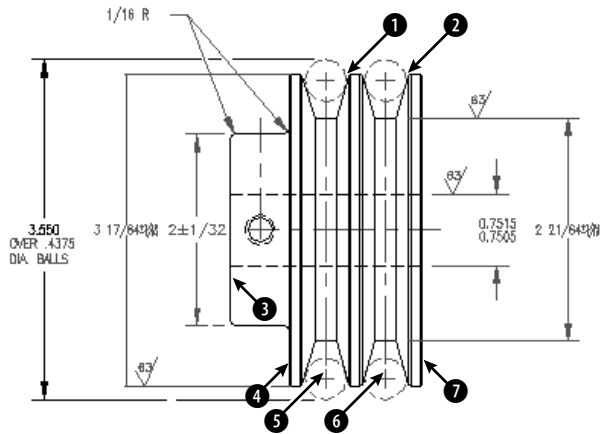

Figure 14-30: You can use Quick Dimension to dimension the circles and create continuous dimensions.
2. Save the file as **ab14-07.dwg** in your AutoCAD Bible folder. This is the same drawing you used in the previous exercise, except that some of the dimensions have been removed (see Figure 14-30). OSNAP should be turned off. If the Dimension toolbar isn't displayed, right-click any toolbar and choose **Dimension**.
Select geometry to dimension: *Pick the circle at ① in Figure 14-30.*
Select geometry to dimension: *Pick the circle at ② in Figure 14-30.*
Select geometry to dimension: *Pick the line at ③ in Figure 14-30.*